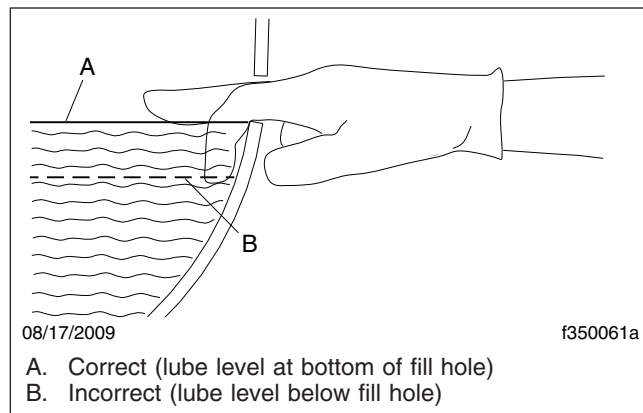

Fig. 2, Axle Lubricant Level Inspection
- 5.1 Fill the axle through the oil fill hole. Lubricant should be level with the bottom of the oil fill hole. To check fluid level, see **Fig. 2**.
- With the vehicle on a level surface, fill the axle through the oil fill hole. Allow a few minutes for the oil to flow into the axle. Lubricant should be level with the bottom of the oil fill hole. To check fluid level, see Fig. 2.